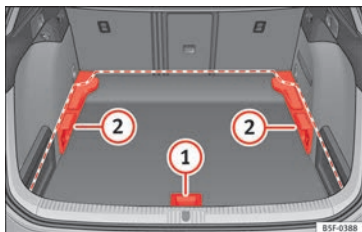
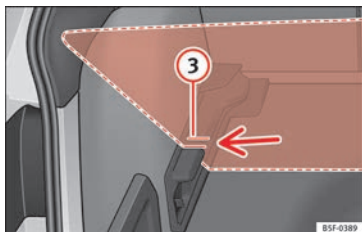

Fig. 160 Luggage compartment variable floor: positions.
Fig. 161 Luggage compartment variable floor: grooves tilted.
- Lift the floor using handle »» Fig. 160 ① and pull it back until the front of the floor has fully passed the supports ②.
- Move the floor forward over the supports as far as the rear seat backrest and then lower the floor with the handle ①.
- Now match the front part with the lower grooves of the supports and slide the floor forwards as far as the rear seat backrest and lower the floor at the same time with the handle ①.
- Lift the variable floor using handle »» Fig. 160 ① and pull it back until the front of the floor has fully passed the tilted grooves »» Fig. 161 ③.
- Pass the floor through these slots using the handle ①, pushing until the movable front of the variable floor folds and rests on the floor itself.
- Lift the variable floor by the handle »» Fig. 160 ① and pull it back a little.
- Push the variable floor towards the folded rear seats with the handle ① using some